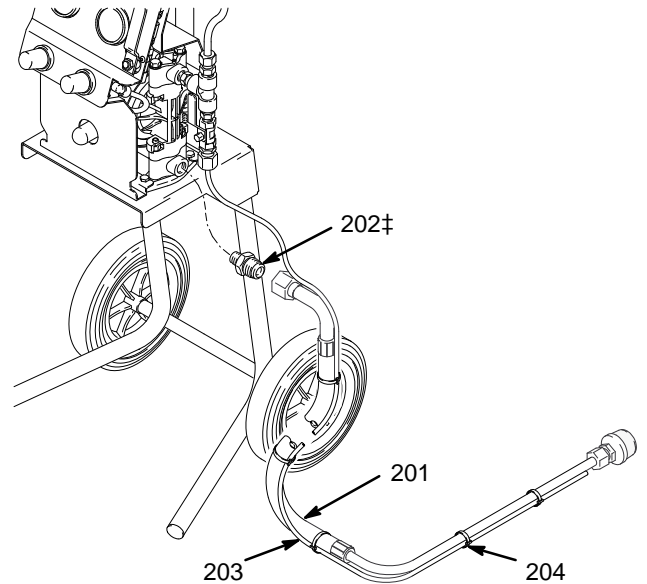

Fig. 5
The Suction Kit, listed above, can be installed for drawing fluid from a container that is not directly under the unit. Install the Suction Kit as follows (see Fig. 5):
1. Apply thread sealant (specified in Fig. 5) to the threads of the nipple (202).
2. Remove the male elbow fitting (46) from the pump inlet. See the **Parts Drawing** on page 13.
3. Thread the nipple (202) into the pump inlet.
4. Thread the fitting of the suction tube assembly (201) onto the nipple (202).
5. Install the new, longer recirculation tube (203) in place of the old one.
6. Bundle the new suction tube (201) and recirculation tube (203) with the wire ties (204).